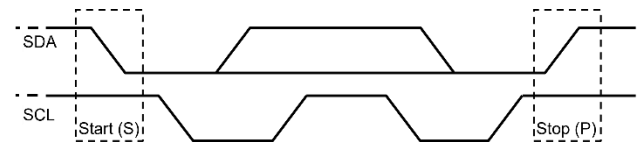

Figure 7: I²C Start (S) and Stop (P) Commands
All transactions must begin with a start (S) command and can be terminated with a stop (P) command. Start and stop commands are always generated by the master. A start command is defined by a high-to-low transition on the SDA line while SCL is high (see Figure 7). A stop command is defined by a low-to-high transition on the SDA line while the SCL is high (see Figure 7). The bus is considered busy after a start command and free after a stop command.